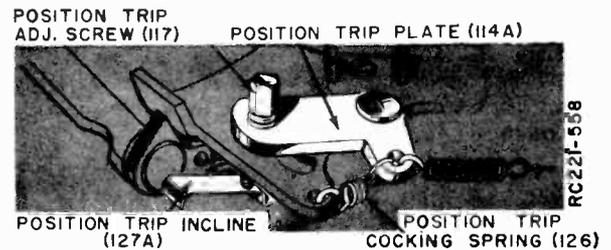

Figure 8. Trip Serration Plate, Showing Position Trip Adjustment.
For 45 RPM operation, a "position" type trip is used. See figure 8. (45 RPM records do not have an eccentric groove.) This type of trip arrangement, trips the changer into change cycle when the pickup arm reaches a given distance from the 45 RPM spindle.
The ideal adjustment of screw (115) for best operation is when the point of the pawl (127B) is horizontally even or level with the smooth side of the trip serration plate (114). NOTE: The point of the pawl should be approximately  $\frac{1}{8}$  of an inch from the bottom edge of the lip on the trip serration plate. See figure 8.